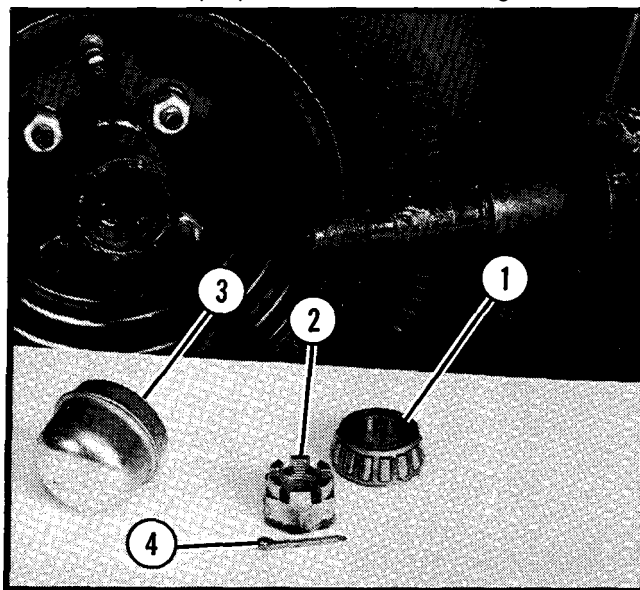

Figure 14.
8. Assemble bearings, lubricate seal, and hub. Mount on axle with proper hardware. See Figure 14.